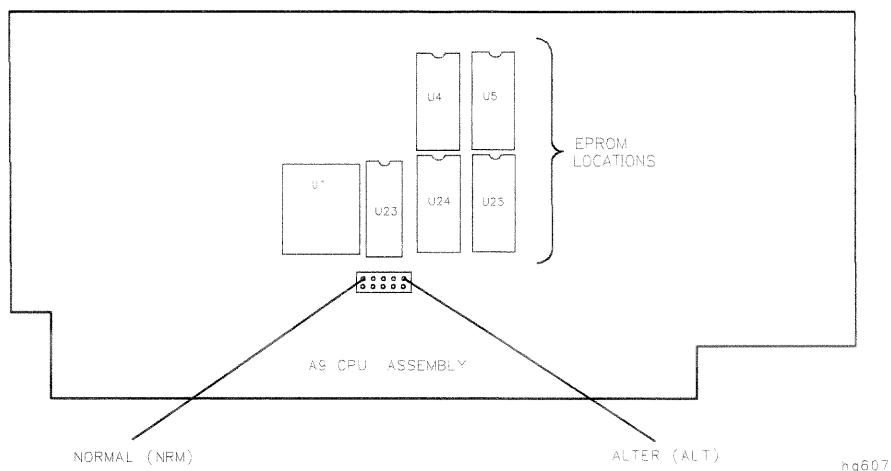

Figure 7-2. Jumper Positions on the A9 CPU
- f. Move the jumper to the ALT position as shown in Figure 7-2.